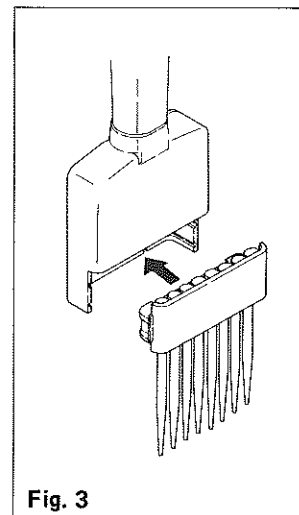

Fig. 3
2. Model 8800 may be supplied with the dispensing speed controller slightly tightened. Loosen the dispensing speed controller, and depress the piston lever to its lowest position. Mount the syringe cartridge into the cartridge holder so that the eight piston flanges are securely locked into the piston holder. Push the cartridge against the cartridge holder. (Fig. 3)